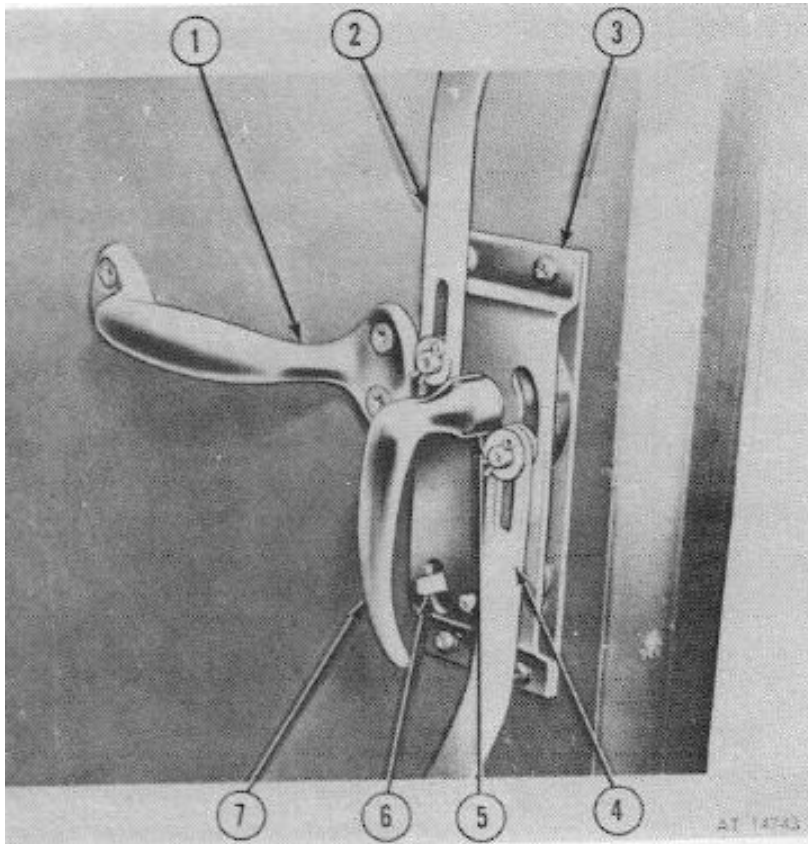

Figure 2-105. Rear door lock and latches.
- (1) Remove two upper hinge-to-hinge pillar bolts.
- (2) Support door and remove two lower hinge-to-hinge pillar bolts and remove door assembly.
o. Rear Door Locks and Latches. (Fig 2-105)
- (1) Remove two cotter pins securing latch rods to top and bottom door locks.
- (2) Remove flat washers, latch rod ends and spring washers from pins to lock assembly.
- (3) Remove four screws securing latch to rear door panels.
- (4) Remove door locks and latches from rear doors.
- (1) Support door and install the two lower hinge-to-hinge pillar bolts. Do not tighten bolts.
- (2) Install the two upper hinge-to-hinge pillar bolts.
- (3) Adjust door to cab opening and tighten bolts.
- (1) Position locks and latches on rear door and secure with screws.
- (2) Install spring washers, latch rod ends and flat washers onto the lock assembly pins and secure with cotter pins.